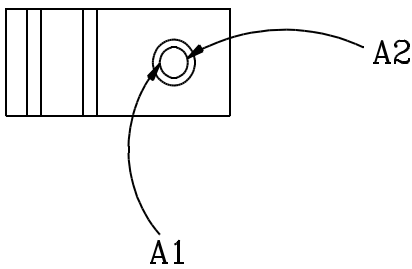

Figure 8
23. Click on SELECT, then click on A1 and A2 (the .25R arcs). (See Figure 8.)